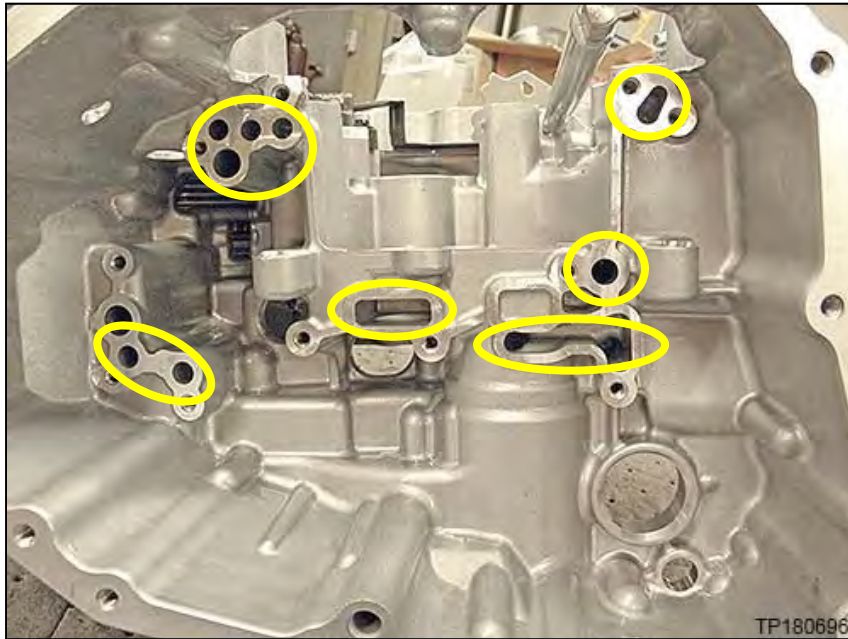
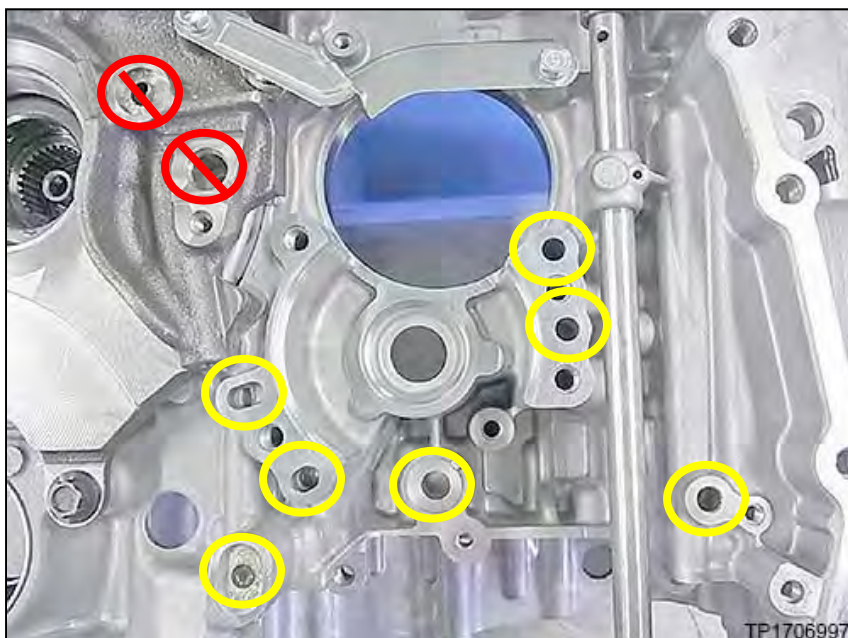

Figure 111
Figure 112
91. Spray brake cleaner into each oil passage of the CVT case, where shown in Figure 111 and Figure 112 with yellow circles, until the fluid runs clear for 5 seconds.